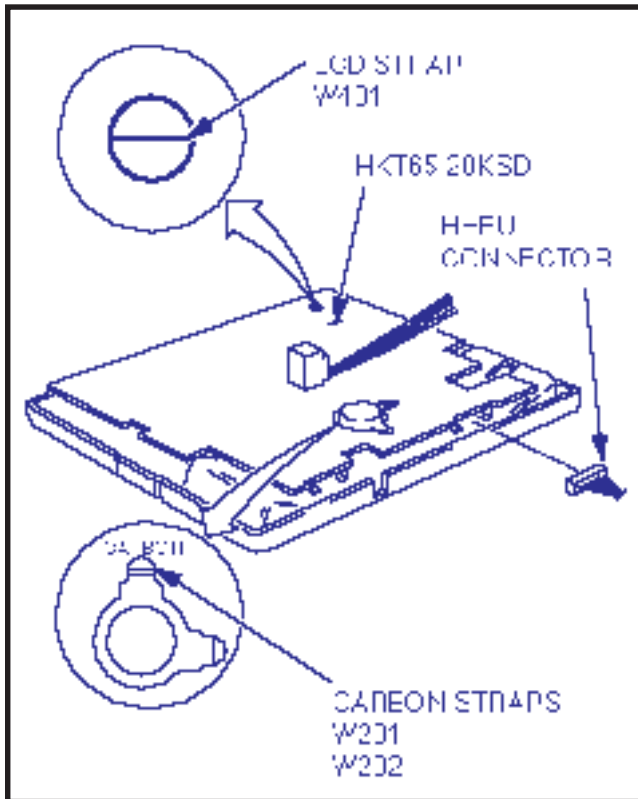

FIGURE 4-30—LOCATION OF CARBON STRAPS
**5.33** Locate the two carbon straps **W201** and **W202** (Figure 4-30). Cut both straps.
**5.46** Connect the HHEU PCB to the electronic telephone PCB (Figure 4-30).